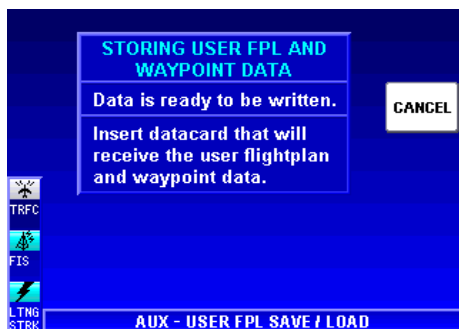

Figure 1-189
6. When Figure 1-189 is displayed, insert the datacard to which the data will be copied.